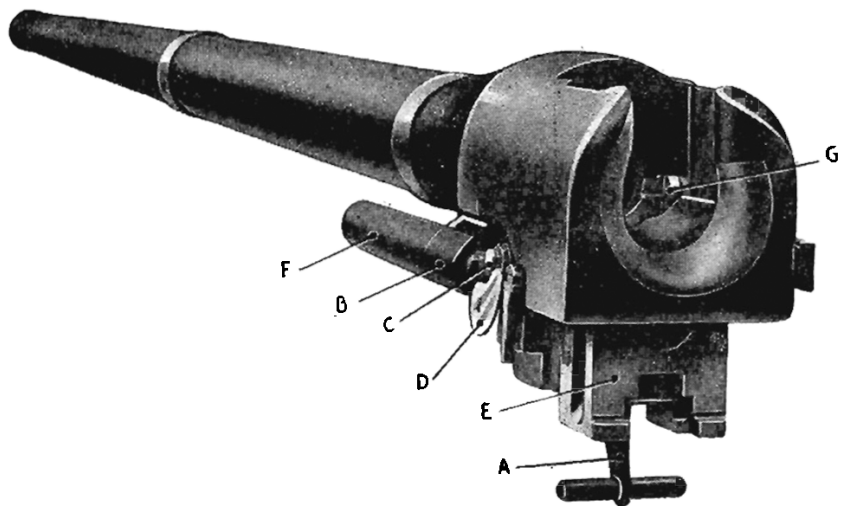

Figure 42. 37 m/m. Gun—Breech Open
To load the gun (see Fig. 42).
To strip the breech block (See Figures 42 and 44) .
- (a) Pull the handle (A, Fig. 42) downwards until a pin can be inserted through the hole (B, Fig. 42) in the closing spring housing and rod.
- (b) Remove the closing spring locking pin (C, Fig. 42) and while supporting the breech block, withdraw the lever arm shaft (D, Fig. 42).
- (c) Remove the crank assembly (A, Fig. 44) and lower the breech block (E, Fig. 42) placing it face downwards.
- (g) Start the breech block (E, Fig. 42) into its recess, keeping the cocking lever up.
- (j) Push the block up and replace the crank assembly (A, Fig. 44) and the lever arm shaft (D, Fig. 42).